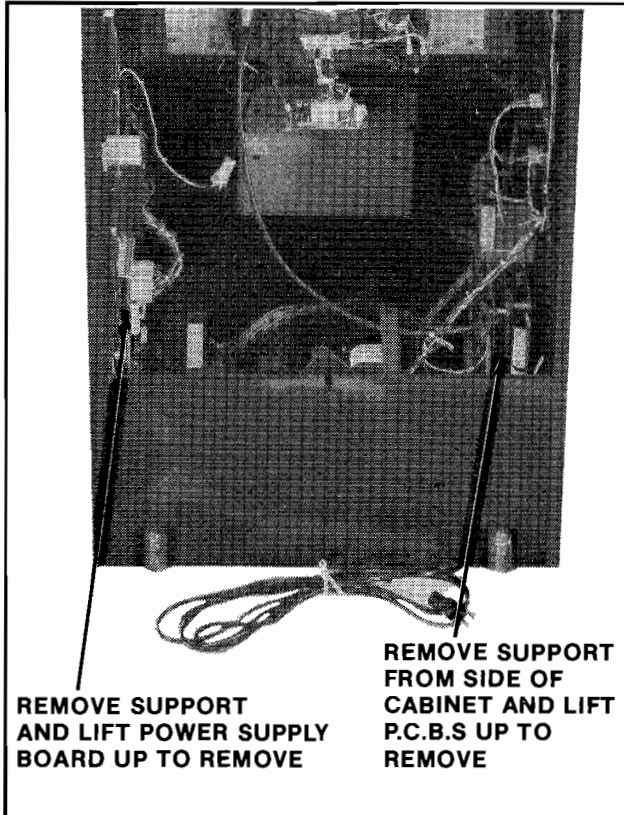

Figure 4-10 Replacing P.C.B.s — Upright
### 1. UPRIGHT MODEL: See Figure 4-10.
- Disconnect the linear power supply board from all its cabling, remove the P.C.B. supports indicated in Figure 4-10 and slide the linear power supply board out the back of the cabinet.